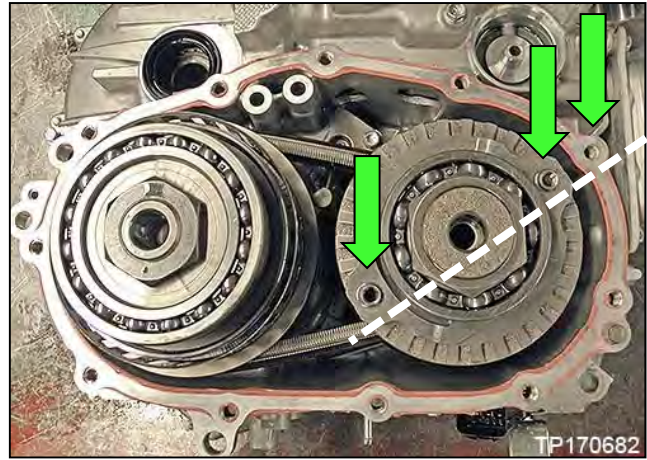

Figure 98
78. Align the primary pulley bearing retainer bolt holes with the bolt hole on the case as shown in Figure 98.